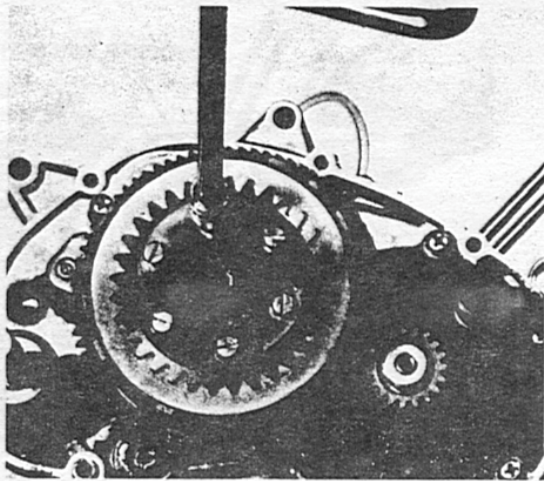

Fig. 7
28. Remove the 6 clutch thrust plate bolts from the top of the clutch assembly. Remove the thrust plate. (Figure 7)